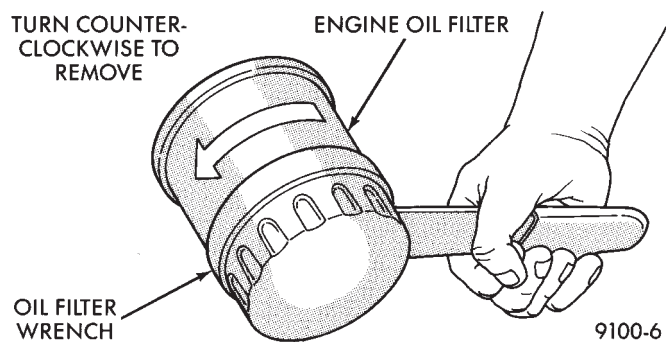
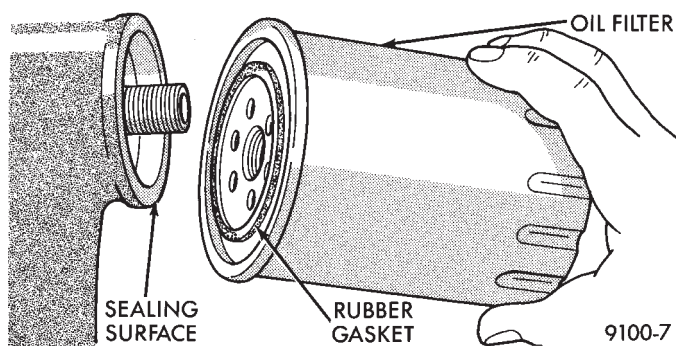

Fig. 4 Remove Oil Filter
Fig. 5 Install Oil Filter
- (1) Position a drain pan under the oil filter.
- (2) Using a suitable oil filter wrench (Fig. 4) loosen filter.
- (3) When filter separates from adapter nipple, tip gasket end upward to minimize oil spill. Remove filter from vehicle.
- (4) With a wiping cloth, clean the gasket sealing surface (Fig. 5) of oil and grime. Wipe off oil residue from below oil filter adapter.